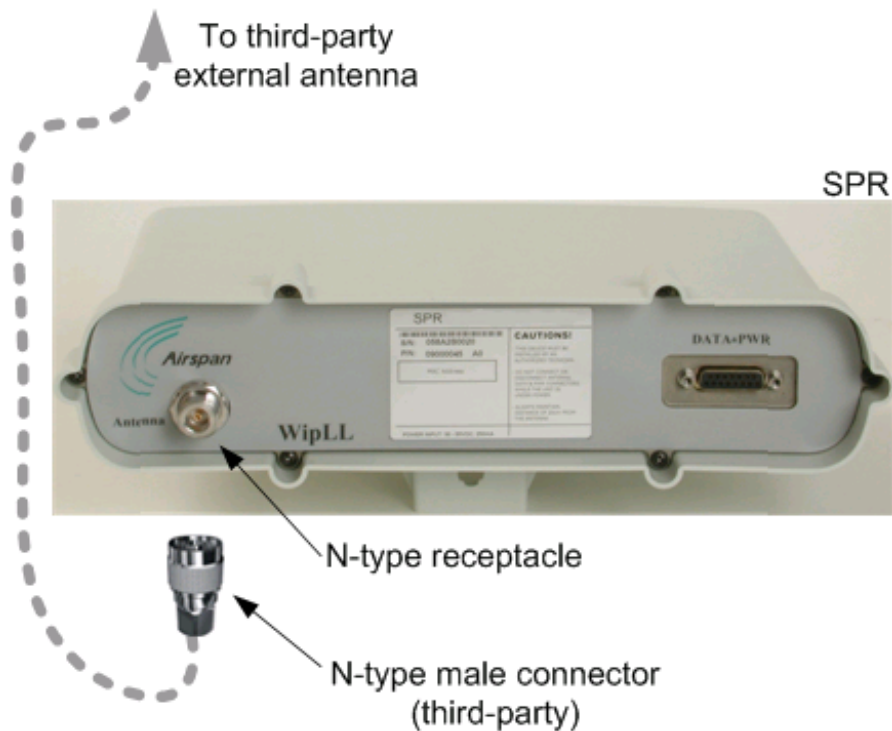

Figure 16-1: SPR model with N-type connector for attaching an external antenna
- Connect an **N-type male** connector of the third-party antenna to the N-type port located on the SPR's front panel, as displayed in Figure 16-1.